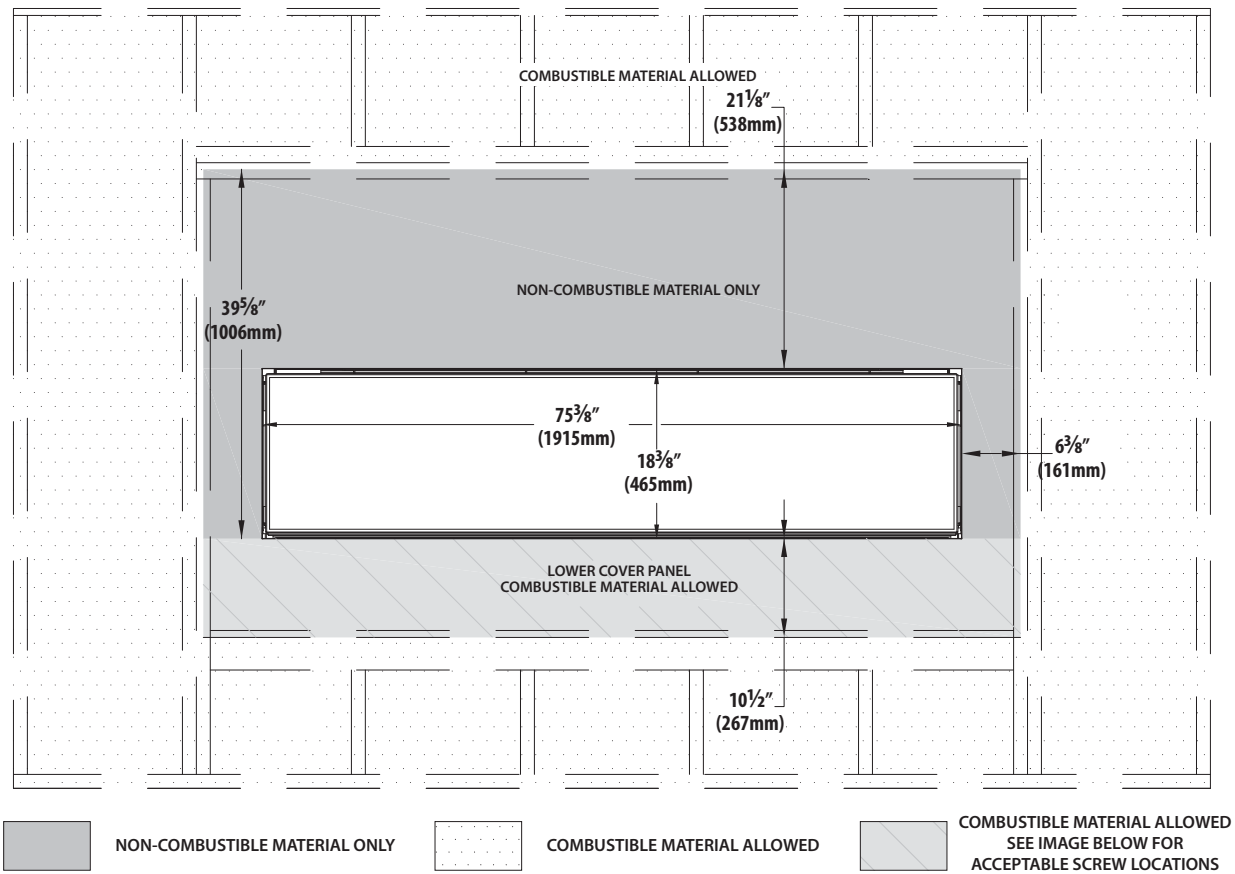
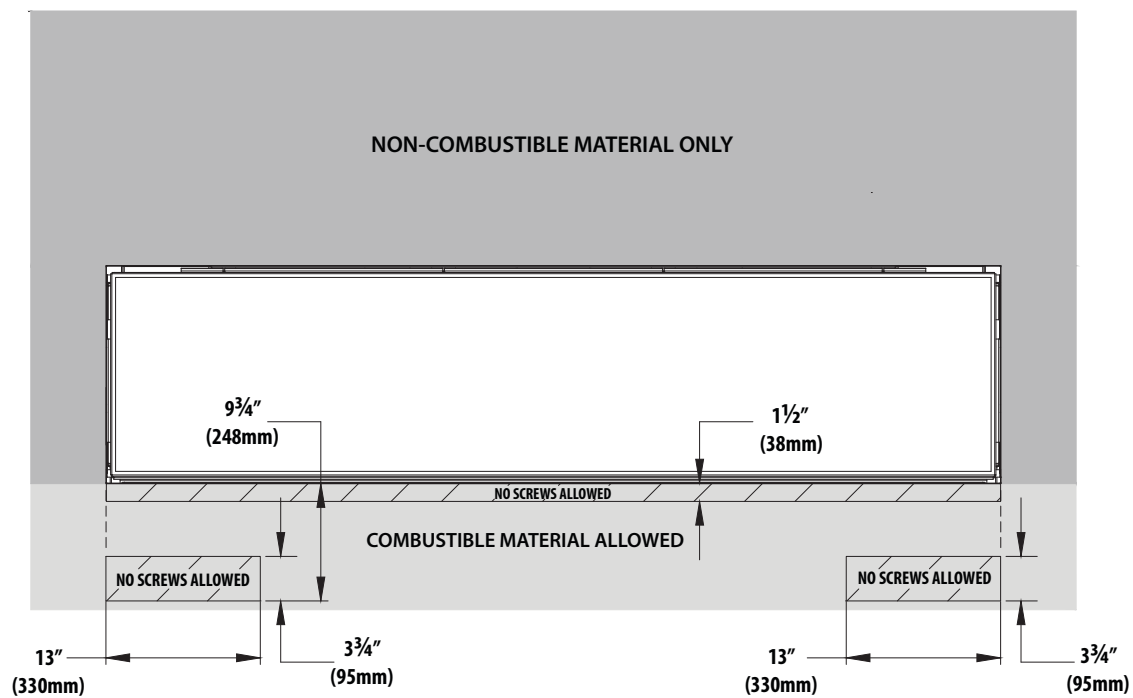

Figure 4.4, Minimum Non-Combustible Finishing Dimensions
Figure 4.5, Minimum Non-Combustible Finishing Dimensions Screw Locations
- It is acceptable to pre-drill holes and to use self-tapping screws prior to attach the non-combustible material to the top and sides of the fireplace face. In Figure 4.5, screws can only penetrate the fireplace outer shell up to 1/2" (13mm) in the allowed areas.
3. Do not use screws above the framing for the gas and electrical components when installing the bottom panel. See Section Figure 4.4, Minimum Non-Combustible Finishing Dimensions on page 20 for maintaining required areas.
- Non-combustible material is required at the top and sides of the fireplace. This fireplace is designed to accommodate non-combustible facing material up to 3/4" (19mm) thick. See Figure 4.4 and Figure 4.5 on page 29.
- It is acceptable to pre-drill holes and to use self-tapping screws prior to attach the non-combustible material to the top and sides of the fireplace face, screws can only penetrate the fireplace outer shell up to 1/2" (13mm) in the allowed areas. See Figure 4.5 on page 29.
- This combustible material goes on any required non-combustible materials as shown in See Figure 4.4 and Figure 4.5 on page 28.